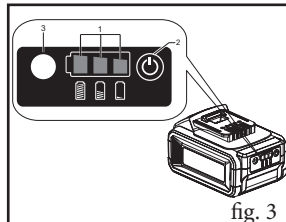

fig. 3
3. Checking the battery charge level (fig. 3).